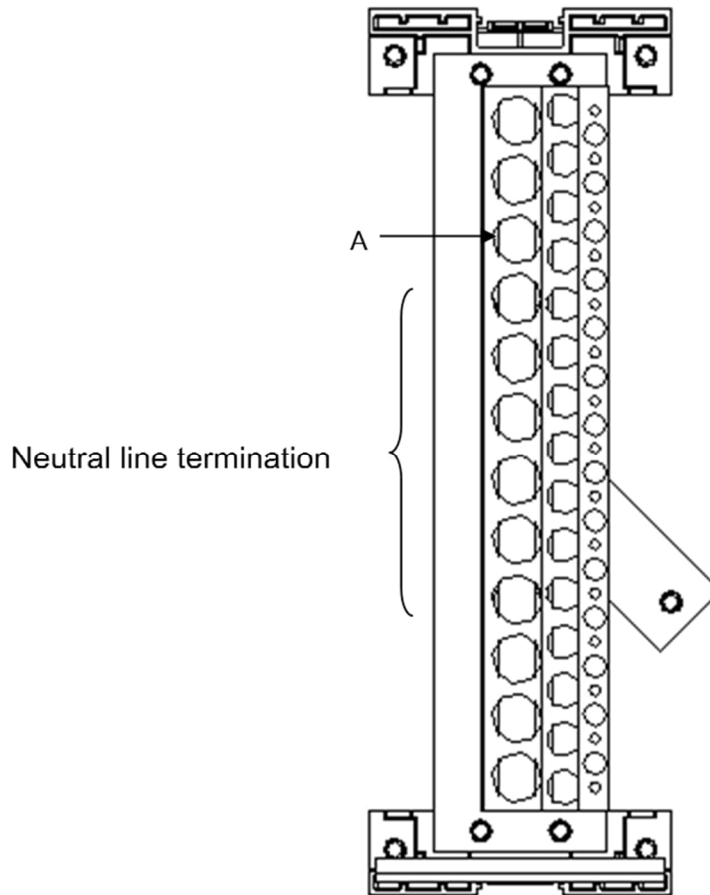

Figure 3. Neutral line terminations
6. Central 6 holes ("A") can be used for incoming neutral line terminations as shown in Figure 3. Load terminations can be done at rest of the remaining holes.